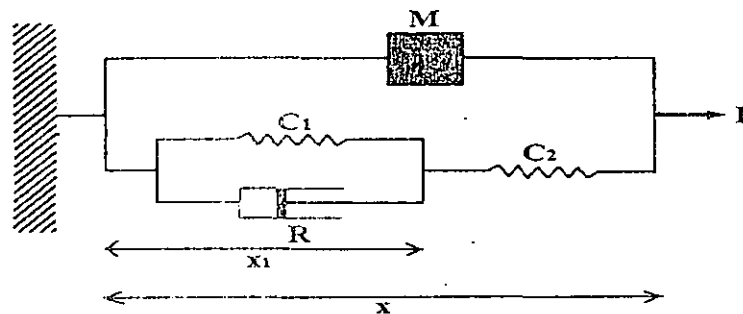

Figure 2. The Poynting-Thomas viscoelastic model of muscle.
3. The Poynting-Thomson analogue model of muscle mechanics is given by Figure 2 below.